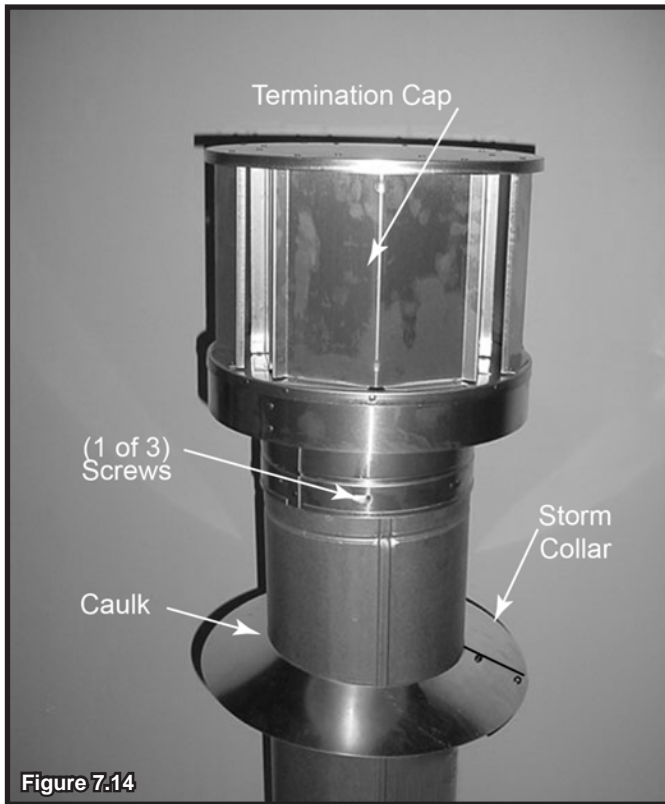

Figure 7.14
- Slide the assembled storm collar down the pipe section until it rests on the roof flashing (see Figure 7.14).
- Caulk around the top of the storm collar. See Figure 7.14.
- Secure the cap by driving three self-tapping screws (supplied) through the pilot holes in the outer collar of the cap into the outer flue of the pipe. See Figure 7.14.